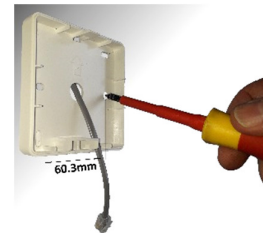

Fig 9
- Step 1** Press release button on side of Controller case and pull the back case away (see Fig 9).
- Step 2** Feed one end of the RJ control cable through the switch box, feed and secure the RJ control cable through the back case and secure back case to switch box using 2 mounting screws (not supplied) (see Fig 9).